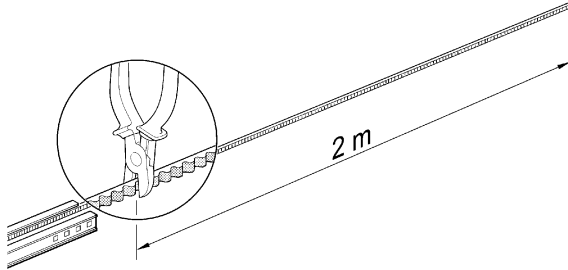

Figure 17
**1** Cut the free end of the belt to obtain a length of exactly 2 metres, as shown in figure 17.